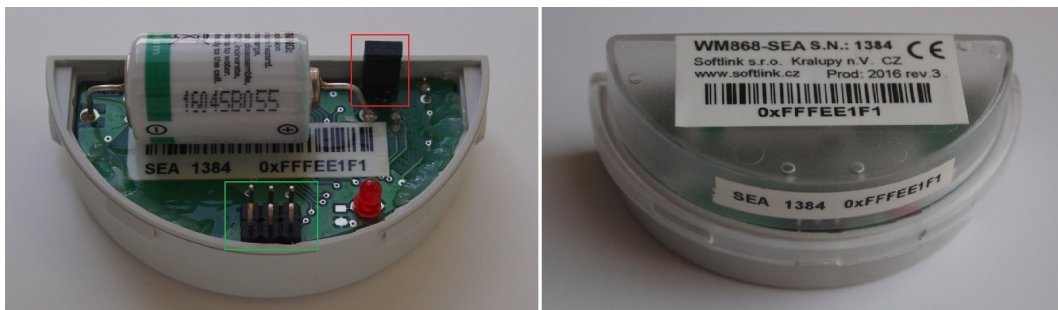

Figure 23: Detailed view of WM868-SEA module
Detailed view of the module without cap (left) and assembled with cap (right) can be seen in the figure 23. Position of configuration connector on the module printed circuit board is marked by green colour, module battery switch (jumper) is marked by red colour.
- switch-on battery by short-circuiting of shortening pins (insert „jumper” to shortening connector on the PCB - see figure 23);